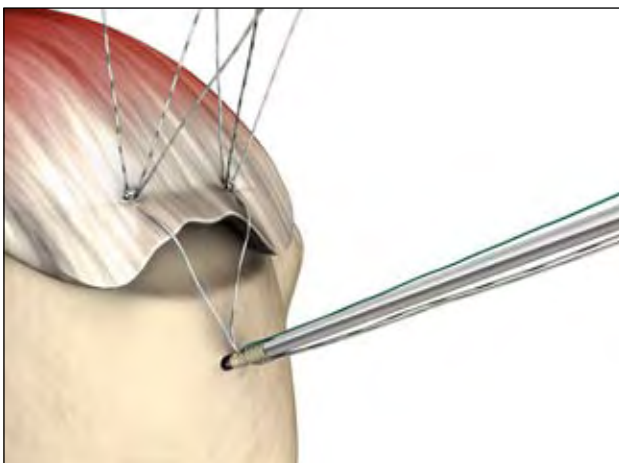

Figure 6
6. Slide the loaded suture anchor into the joint through the portal used to create the starting tunnel and through which the sutures were retrieved. As the anchor advances toward the prepared bone tunnel, remove excess suture slack to minimize suture entanglement (Figure 6). If desired, secure the free ends of the suture using the features located on the inserter handle. Do not attempt to tension the sutures at this time.